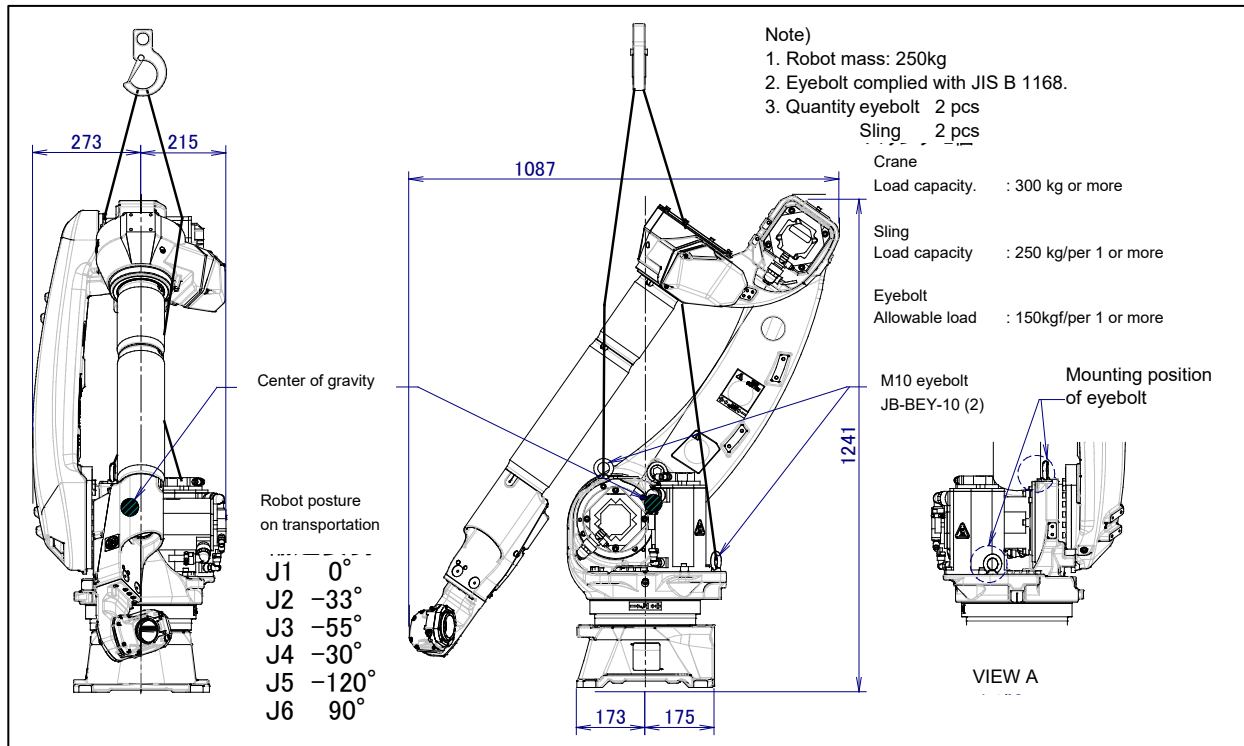

Fig. 1.1 (b) Transportation using a crane (ARC Mate 120iD/12L, M-20iD/12L)
2) Transporting the robot with a forklift (Fig. 1.1 (c), (d))